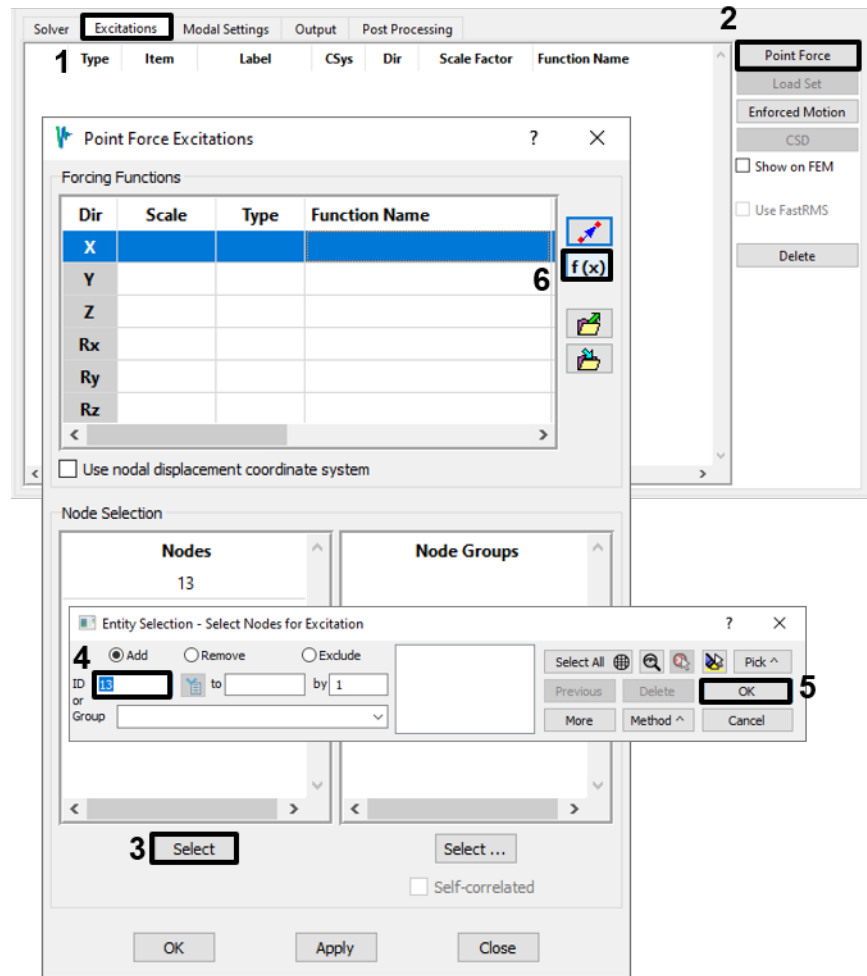

Figure 4-20. Define a point force excitation on node 13 in the X-direction.
- b. On the *Point Force Excitations* dialog, first select node 13 to receive the applied force. Next, select the X-direction in the *Forcing Functions* table, then click the **f(x)** button to bring up the Function Manager (Figure 4-20).